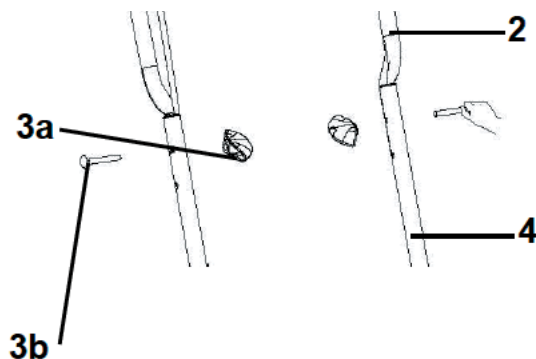

Fig. 3
1. Attach the upper handle bar (2) to the lower handle bars (4) and align the holes in the upper handle bar with the ones in the lower handle bars (Fig. 3).
2. Secure the upper handle bar (2) with the mounting sets (3) to the lower handle bars (4) and tighten the knobs (3a) clockwise (Fig. 3).